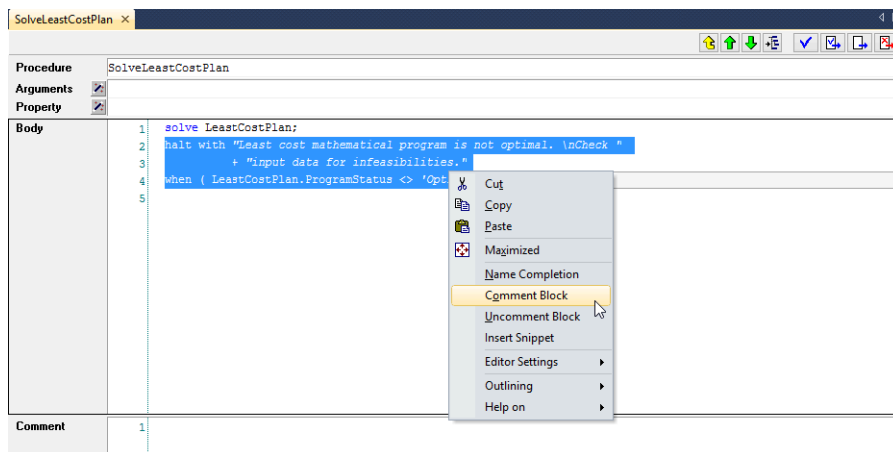

Figure 14.8: Commenting out the halt clause
- ▶ select the 3 lines of the halt clause of the solve statement, as illustrated in Figure 14.8,